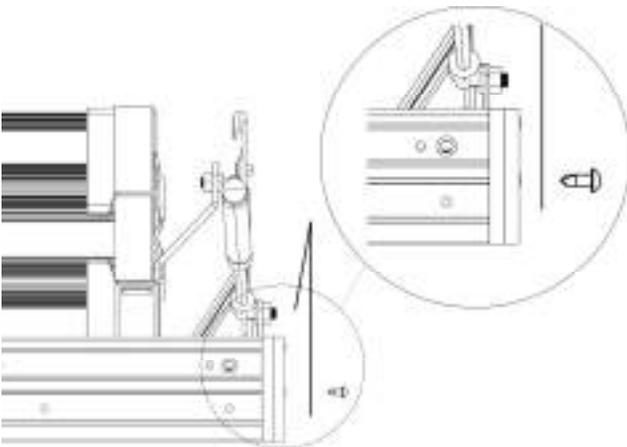
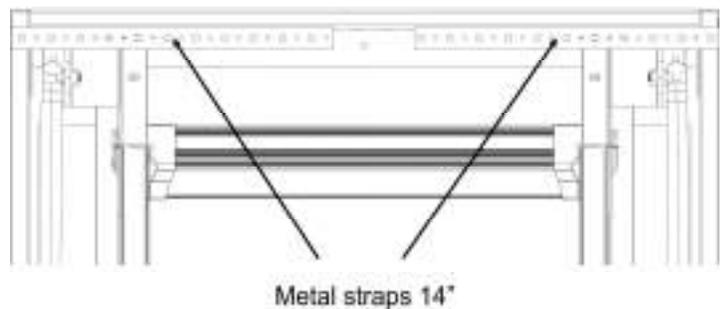
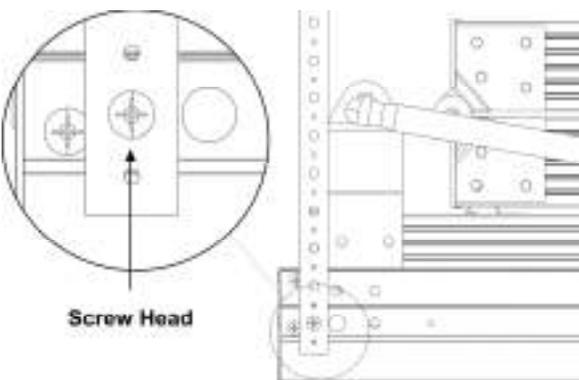

FIGURE 4 : STRAP INSTALLATION
FIGURE 6: STRAP POSITION
FIGURE 5: STRAP POSITION
C. Carefully unfold the 14" metal straps, these could have sharp edges. Place a #10 3/8" Philips screw through the **bottom** 1/4" diameter (large) strap hole. Position a metal strap against the side of aluminum frame over the predrilled hole as shown in **Figure 4** and **Figure 5**. **DO NOT** let the metal straps extend below the aluminum frame. See **Figure 7**. Hold the metal strap securely to prevent rotation of the strap while screwing it to the aluminum frame.
E. Position both straps vertically as shown in **Figure 5**. Fold both straps inward over the climbing section and out of the way. See **Figure 6**.